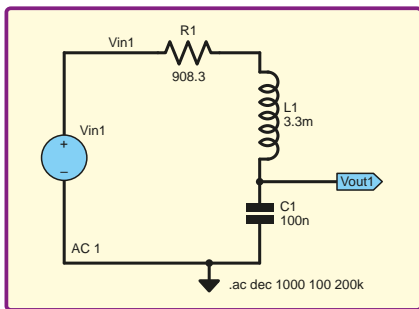
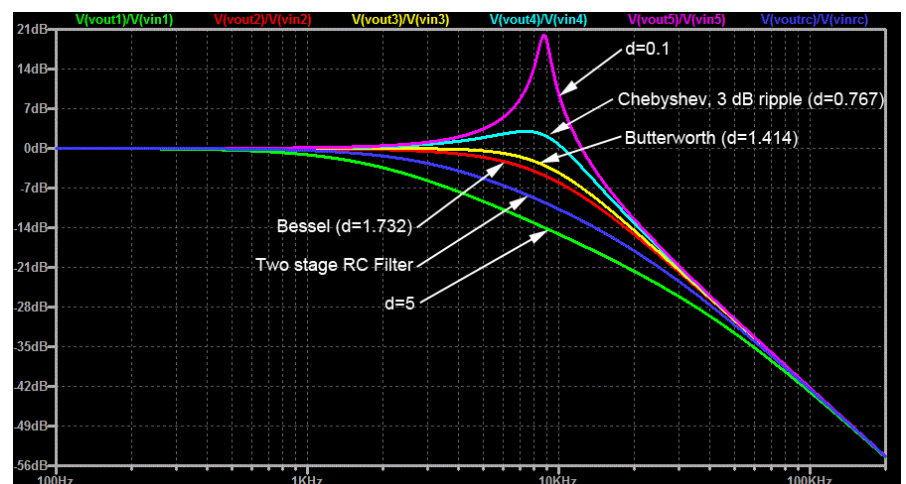
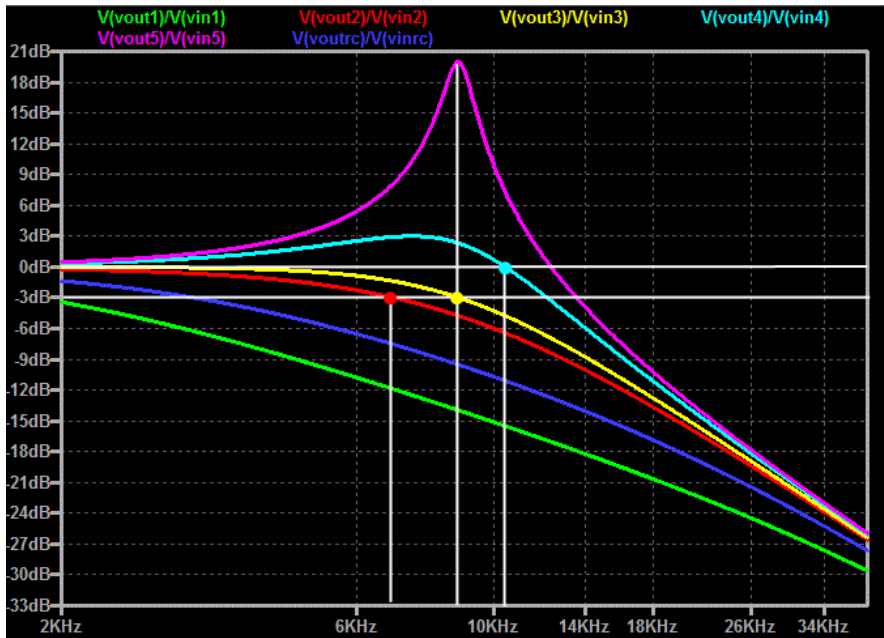

Fig.13. RLC low-pass filter. The resistor adds damping to the circuit in Fig.3
Fig.14. Various simulated frequency responses for the circuit in Fig.13 with difference resistance and hence damping values
Fig.15. Detail from Fig.14 showing  $-3\text{dB}$  points for Bessel, Butterworth and Chebyshev filters
Adding resistance in series with the inductor produces the circuit shown in Fig.13. Fig.14 and Fig.15 show frequency responses for various values of R. The response of the two-
system and hence the decay of any oscillations. The damping,  $d$  for the RLC circuit in Fig.13 is given by:
where  $f_0$  is the resonant frequency, as given by the equation above. The damping values for the various responses are shown on Fig.14. The damping and corresponding resistor values are shown in Table 1.
Table 1: damping ( $d$ ) and corresponding resistor (R) values used for simulations of Fig.13
There is quite a narrow range of damping values which are suitable for the low-pass filter in Fig.13, from approximately  $d=0.75$  to  $d=2$ . Values of  $d$  of 0.1 and 5 are also plotted on Fig.14 and Fig.15 to provide a wider illustration of how  $d$  affects the frequency response. These values do not provide particularly useful low-pass filters.
Certain  $d$  values correspond to the characteristics of widely used filter types such as Bessel, Butterworth and Chebyshev. The names of filter types often come from the underlying mathematic functions on which they are based, these in turn are typically named after the mathematicians who discovered or developed the theory behind those functions. Three of the responses plotted in Fig.14 and Fig.15 correspond to the three filters just mentioned. The Chebyshev filter can have a variety of different responses with different levels of gain variation in the pass band (known as pass-band ripple). The filter plotted has 3dB of pass-band ripple.
Table 2: damping and cut-off frequencies relative to resonance for a variety of RLC low-pass filters. \* Indicates filter response shown in Fig.14 and Fig.15
Table 3: Resistor values and cut-off frequencies for the circuit in Fig.13 for various filter types
Fig.15 shows a zoomed-in part of the curves in Fig.14 close to the resonant and cut-off frequencies. The cut-off frequencies of the three useful low-pass responses are shown on the graph. The Bessel and Butterworth cut-off frequencies are at  $-3\text{dB}$  because their responses are flat at  $0\text{dB}$  for low frequencies. The Chebyshev  $3\text{dB}$  ripple filter cut-off is relative to the maximum pass band gain, which is  $3\text{dB}$ , so in this case the  $-3\text{dB}$  point is where the response crosses the  $0\text{dB}$  line. All three filters have different cut-off frequencies. The cut-off and resonant frequencies coincide for the Butterworth filter.
To finally answer James' question, the cut-off frequencies relative to the resonant frequency for a variety of common types of filter, implemented using the circuit in Fig.13, are given in Table 2. Table 3 shows the appropriate resistor value for the circuit in Fig.13 and the corresponding cut-off frequency for the same set of filters.